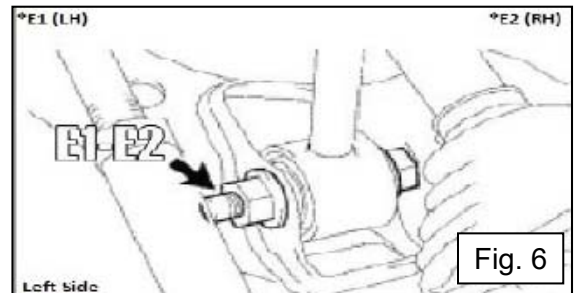

Fig. 6
8. Verify Torque of driver side and passenger side front lower shock bolts. (Fig. 6) Items E1 and E2 on torque Form.